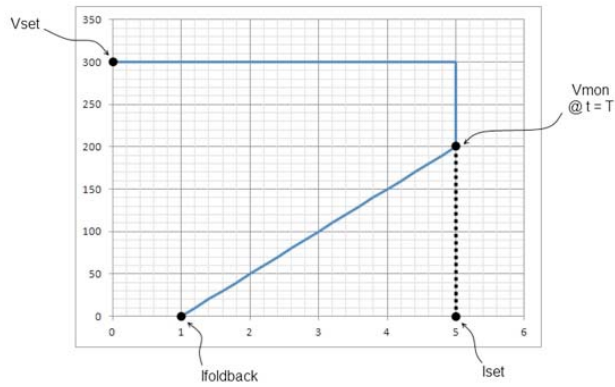

fig. 3 - 6
- The simulation interface can simulate foldback current limiting behavior to provide a higher level of protection for DUT's. In foldback current limiting the power supply will fold back, after being a specified time in constant current mode, to a predefined current setting. Figure 3 - 6 shows an example of this current limit behavior.